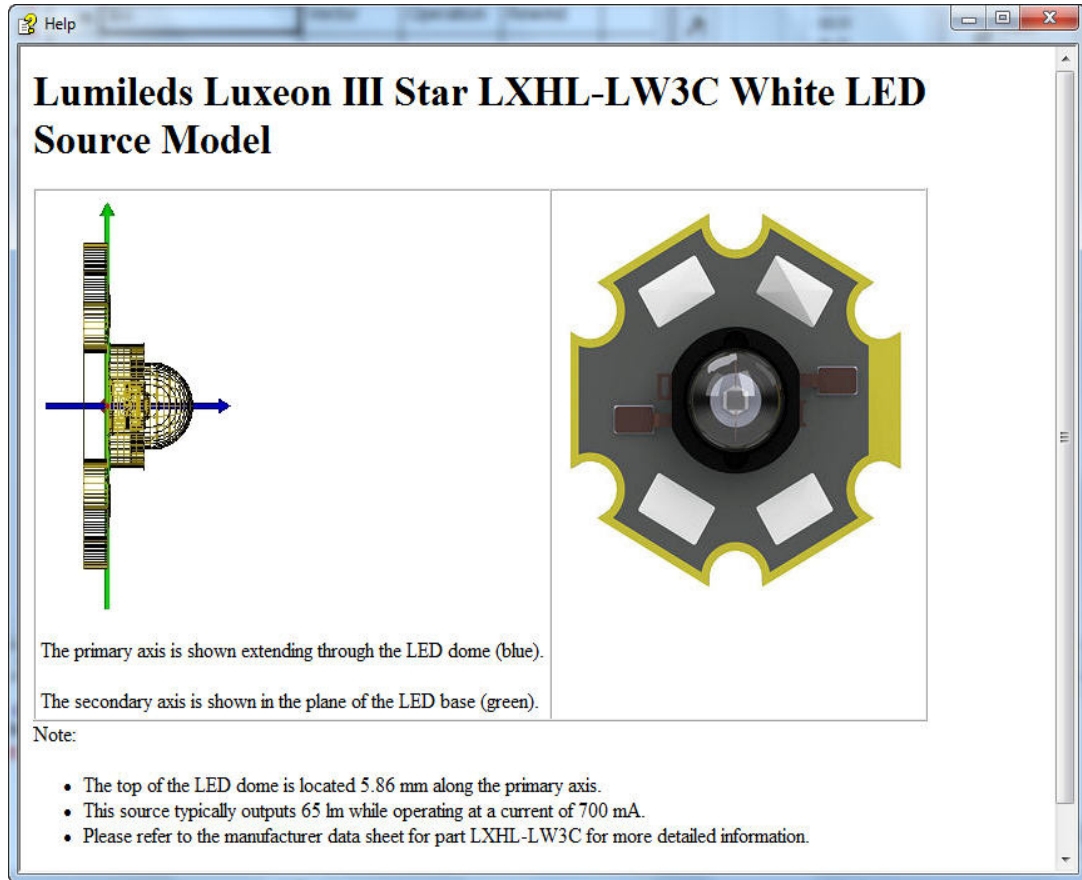

Figure 46 Viewing the model's specifications and images
- 7 Click **View Model**, next to **Source Library File** on the Welcome page of the Light Source Wizard, to display specifications for the source file. See Figure 46.